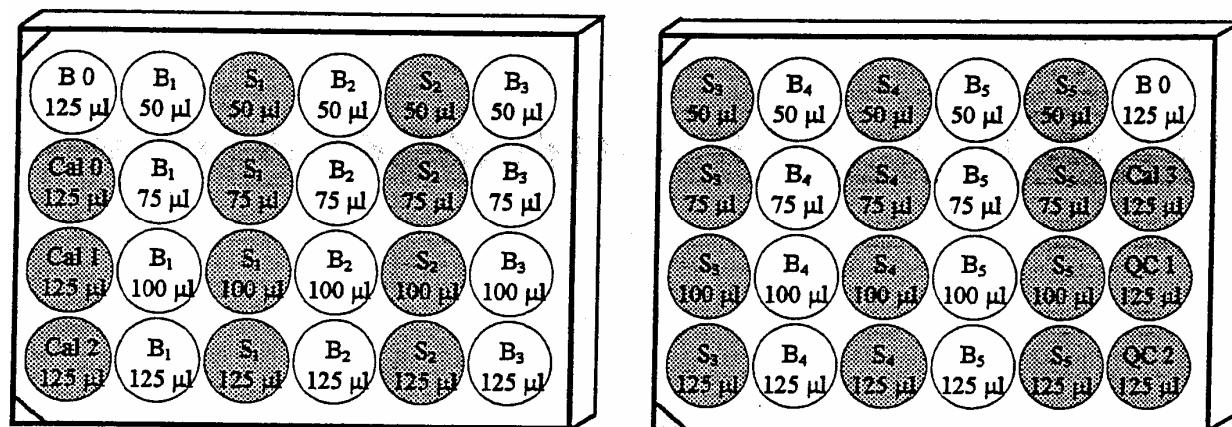

Figure 3.1. Suggested Plate Configuration: Analysis of Five Samples at Four Different Volumes
2. Align the assay plates with the notched corners toward the left and label their lids. A typical plate configuration that has been employed to evaluate five different samples at four different volumes is shown in Figure 3.1 on the next page.